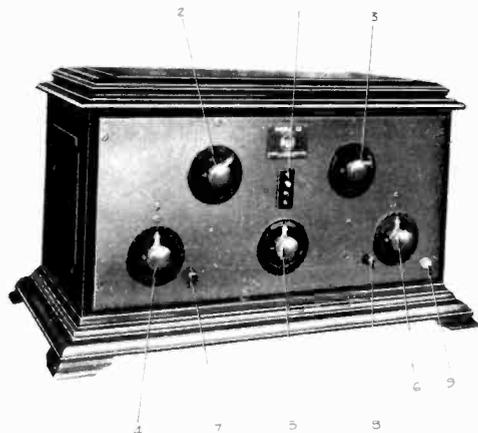

Fig. 1
2. Be sure that white button (No. 1, Figure 1) of push switch is out.
5. Be sure filament control (No. 5, Figure 1) is turned as far as it will go to the left, or opposite to clockwise direction.
8. Place pointer of control (No. 2, Figure 1) in the position on the "Antenna," or upper part of the dial, including the wave length (as marked on the dial) it is desired to receive.